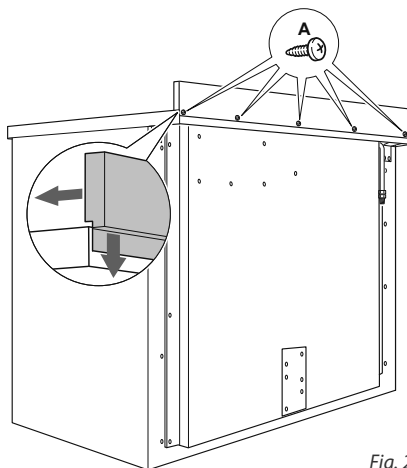

Fig. 2
- Assemble the backguard as shown in Fig. 2 and fix it by screwing the five screws "A".